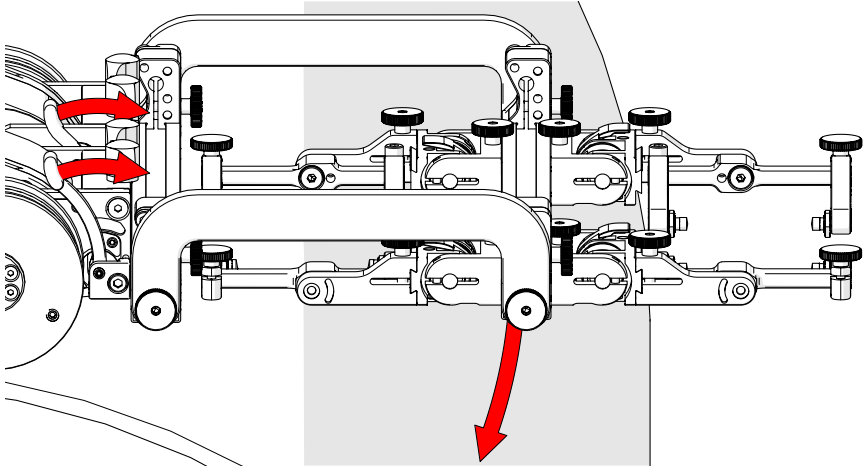
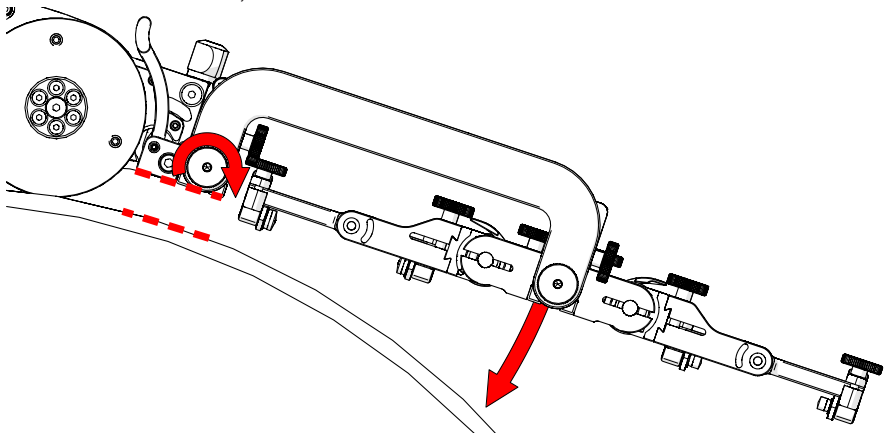

Fig. 221 - Align swivel mount with scan surface
Fig. 222 - Set rear rotational adjustment knob
4. Release the two swivel mount levers (*Fig. 221*) to position the swivel mount parallel to the scan surface (*Fig. 222*). When alignment with scan surface is achieved, lock the crawler swivel mount levers.
5. Loosen the rear rotational adjustment knob to lower the front frame bar of the low profile frame towards the inspection surface (*Fig. 222*).